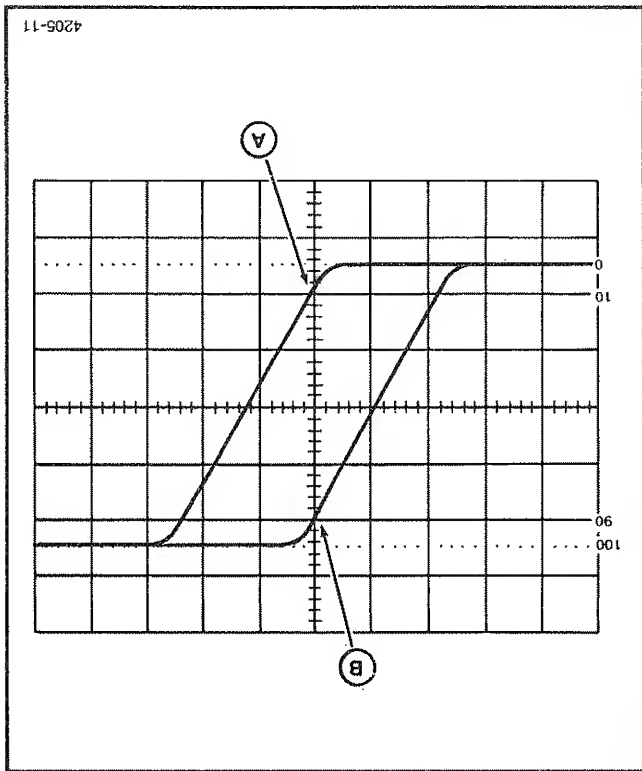

Fig. 4-7. Rise time.
10. Adjust the B DELAY TIME POSITION control so that the displayed waveform intersects the center vertical graticule line at the 10% point (see Figure 4-7, Point A).
11. Adjust the Δ TIME POSITION control so that as the waveform splits into two, the left most one (corresponding to the longer of the two delay times) intersects the center vertical graticule line at the 90% point (see Figure 4-7, Point B).